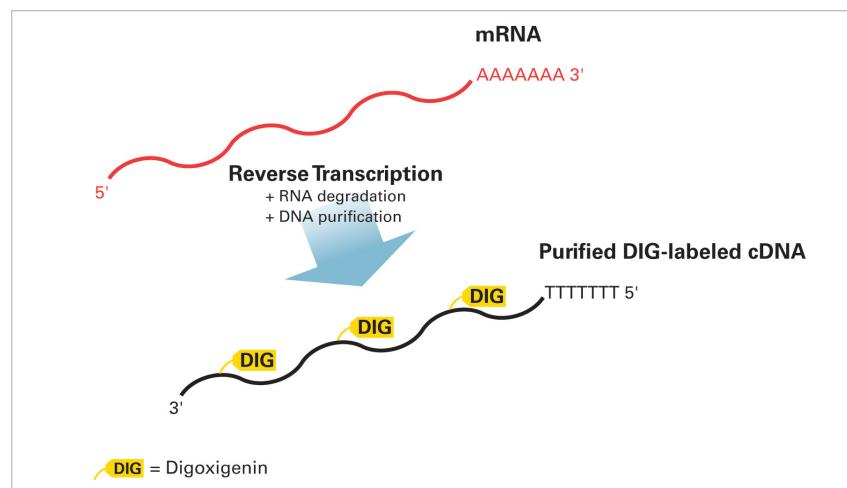

Figure 3. Schematic of the RT labeling process used in the Applied Biosystems Chemiluminescent RT Labeling Kit
The RT labeling process begins with reverse transcription of poly(A) mRNA, using an oligo (dT) primer (Figure 3). The polymerization reaction incorporates nucleotides modified with digoxigenin. After the mRNA is hydrolyzed, the purified DIG-labeled cDNA is ready for hybridization on Applied Biosystems Genome Survey Microarrays.